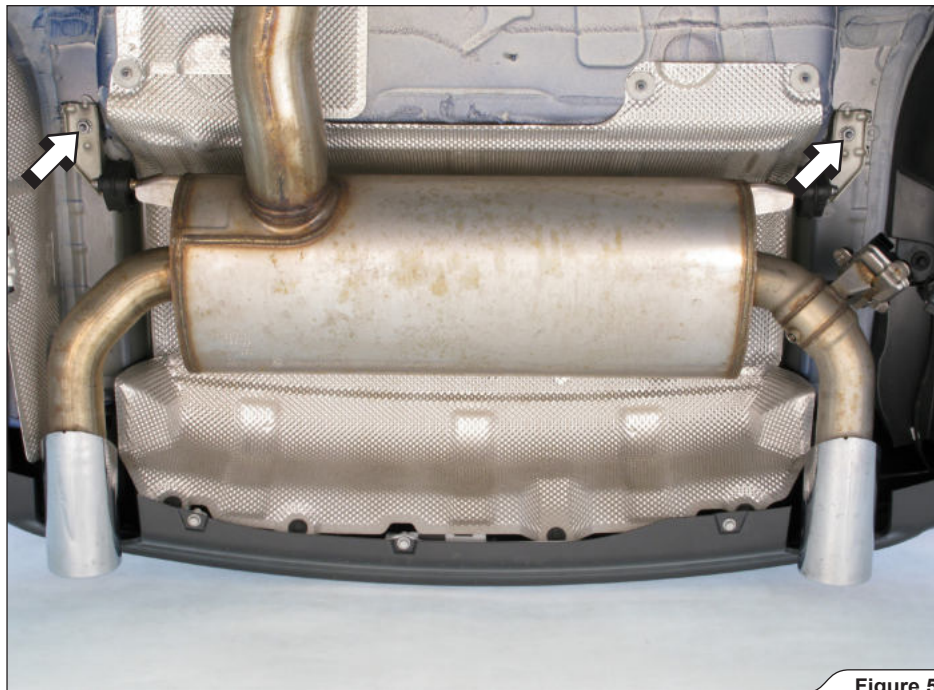

Figure 5
- Support the exhaust system, unscrew the marked bracket nuts and carefully remove the exhaust system off the vehicle (**Figure 5**).